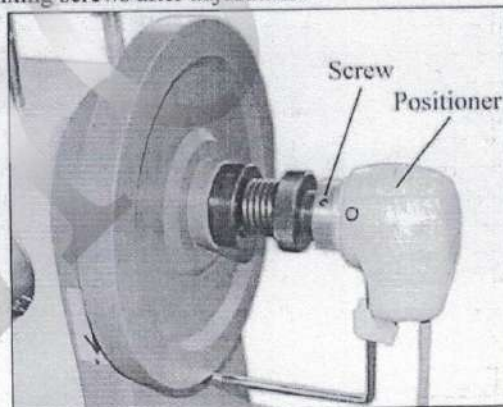

Fig.19
4.6 Adjustment setting of stopping position (Fig.19)